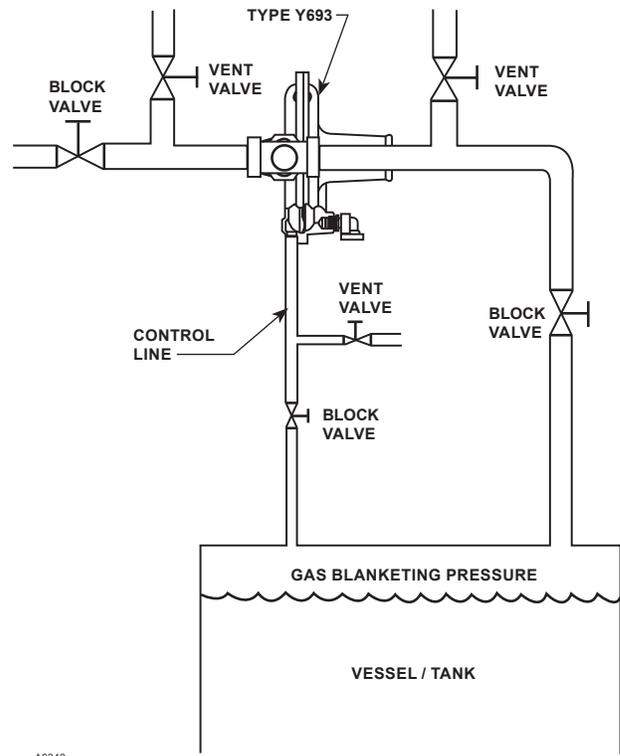

Figure 2. Typical Type Y693 Installation
2. The regulator may be installed in any position as long as the flow through the body is in the direction indicated by the flow arrow attached to the body. Install the regulator as close as possible to the blanketed vessel using a straight run of pipe the same size or larger as the regulator body. Position the body (key 28) and/or diaphragm spring case (key 23) so it will not collect moisture or debris into the screened vent (as shown in Figure 2). If the regulator requires repositioning, refer to the body area maintenance procedures and/or the diaphragm and spring case area maintenance procedures in the Maintenance section to reposition the screened vent for the application. If a block valve is required, install a full flow valve between the regulator and the blanketed vessel.
4. For proper regulator operation, a spring case vent (key 56) is required to allow atmospheric pressure to register on the diaphragm. The spring case vent must be kept open and positioned in such a manner to prevent the spring case from collecting moisture, corrosive chemicals or other foreign material. To allow maximum flexibility in installing the regulator, the vent assembly is supplied separately in a bag. Install the vent assembly in the 3/4 NPT vent tapping and position the vent pointed down as shown in Figure 2. Depending on the orientation of the regulator, the elbow (key 75) supplied with the vent may not be required to position the vent pointed down.
First, close the nearest upstream shutoff valve and then, close the nearest downstream shutoff valve and the block valve on the control line (refer to Figure 2). Next, open the vent valve between the regulator and the downstream shutoff valve nearest to it. Then, open the upstream vent valve and the vent valve in the control line. All pressure between these shutoff valves
The Type Y693 Gas Blanketing Regulator reduces a higher-pressure gas to maintain a positive low pressure of blanket gas over a stored liquid (see Figure 2). Also when the vessel (or tank) is suddenly cooled, causing vapors to contract, the regulator replaces the volume of contracting vapors with a volume of blanketing gas to prevent the internal vessel pressure from decreasing. In both cases, a positive vessel pressure prevents outside air from entering the vessel and reduces the possibility of atmospheric pressure collapsing the vessel.